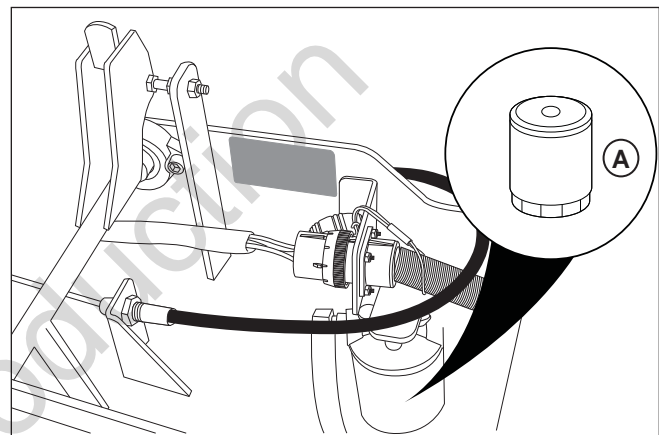

Figure 33. Changing the Hydraulic Oil Filter
1. Locate the transmission oil filter (**A, Figure 33**).